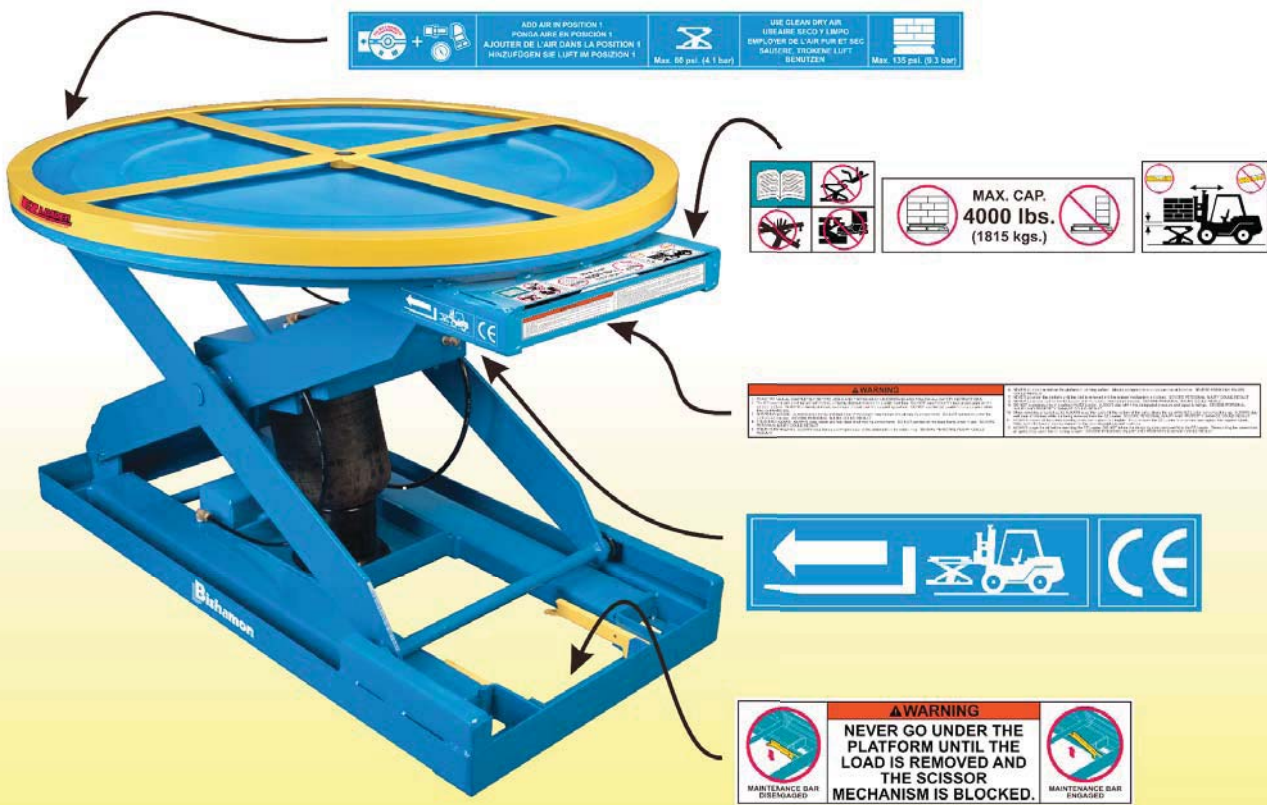

Figure 1 Safety Warning Label Locations
- 11. ALWAYS ensure all safety warning labels are in place and legible. If not, remove the EZ Loader from service and replace the required labels. Refer to Figure 1 for label descriptions and locations.